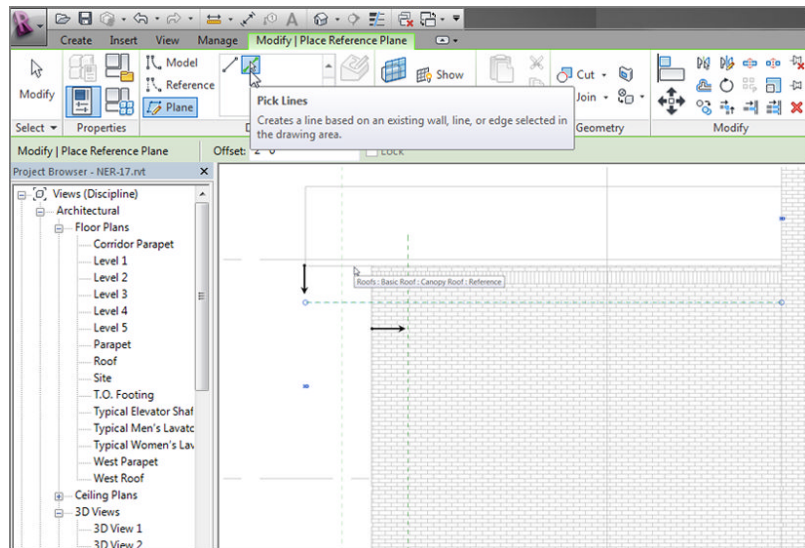

FIGURE 16.41: Creating some guides
2. In the Draw panel, click the Reference Plane button, as shown in Figure 16.41.
4. With the same command still running, offset another reference plane down 2'-0" (600mm) from the bottom of the roof beyond (see Figure 16.41).